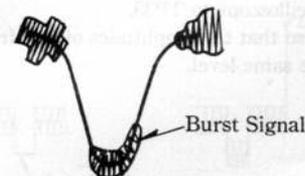

Fig. 34 Burst Gate Pulse
4. Adjust L802 so that the burst signal comes into bottom of valley of burst gate pulse as shown in Fig. 34.